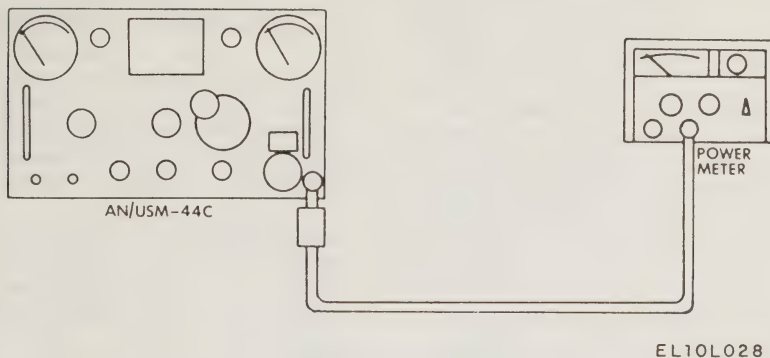

Figure 7-21. Output power adjustment, test setup.
- (1) Set up equipment as shown in figure 7-21.
- (2) Set BAND switch to B.
- (3) Set FREQUENCY MHZ to 30 Mhz.
- (4) Set OUTPUT LEVEL for -3 dbm using
- Connect test equipment as shown in figure 7-21.